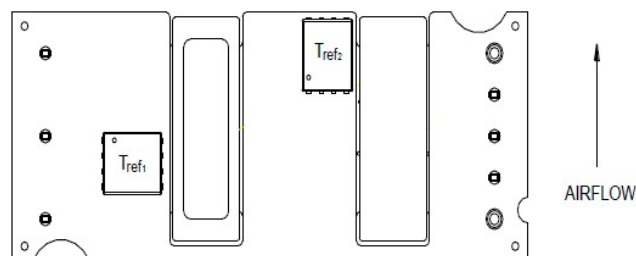
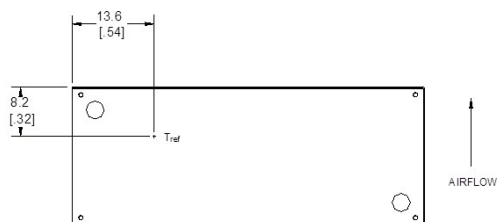

Figure 13. T_{ref} Temperature Measurement Locations for Open Frame Module.
Figure 14. Tref Temperature Measurement Location for Module with Heatplate.
To provide protection under certain fault conditions, the unit is equipped with a thermal shutdown circuit. The unit will shutdown if the thermal reference point, T_{ref} , exceeds 135°C (Figure 13, typical) or 120°C (Figure 14, typical), but the thermal shutdown is not intended as a guarantee that the unit will survive temperatures beyond its rating. The module will Overtemperature Protection automatically restart upon cool-down to a safe temperature.
The thermal reference point, T_{ref1} and T_{ref2} used in the specifications for open frame module is shown in Figure 13. For reliable operation this temperature should not exceed 124°C and 121°C respectively.
The thermal reference point, T_{ref} , used in the specifications for modules with heatplate is shown in Figure 14. For reliable operation this temperature should not exceed 98 °C.